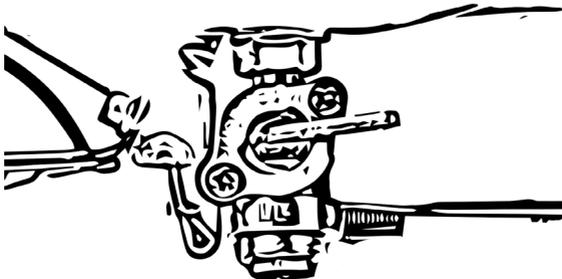

Figure 19
- Switch the fuel tap to OFF, Fig. 19.